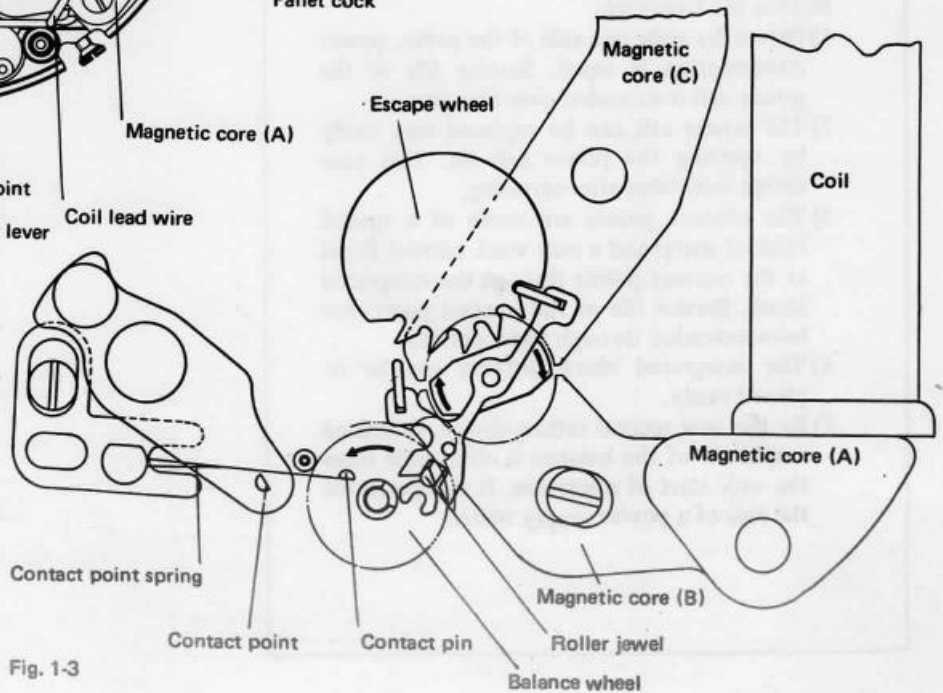

Fig. 1-3
When the crown is pushed back into its normal position, the second setting is released and the balance begins its operation. When the balance wheel rotates counterclockwise (as in Fig. 1.3), the contact point spring and the contact point make contact (ON) by the contact pin on the roller with jewel. Then the current flows on the coil and magnetizes the magnetic cores (A,B, and C), which repulses the permanent magnet of the pallet in the arrow direction and drives the pallet. In this case, the fork slot of the pallet imparts an impact to the roller jewel of the balance; at the same time, the pallet jewel drives the tooth of the escape wheel.